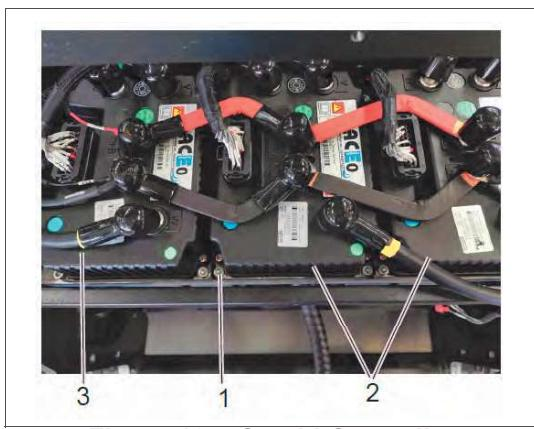

Figure 10-5 Combi Controller
4. Remove screws (1, Figure 10-5) and remove the traction controllers (2) and one pump controller (3).